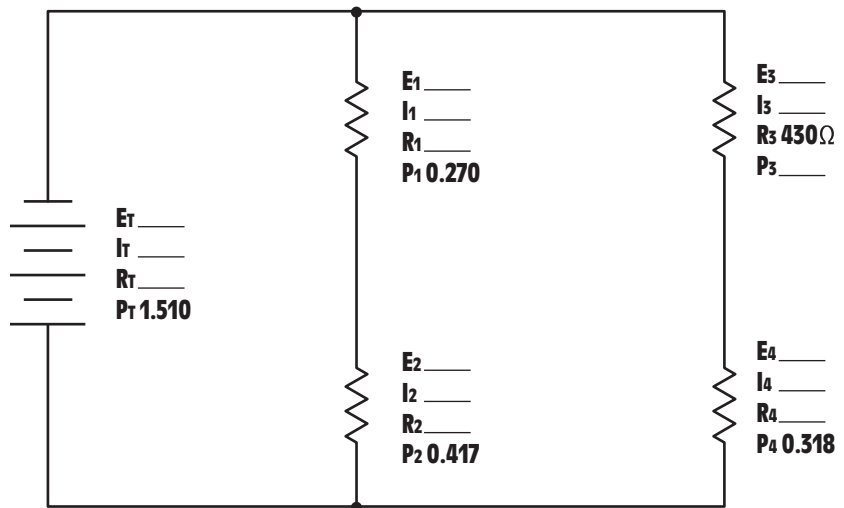

Figure 7-27 Practice Problem 7.
7. Find all the missing values in the circuit shown in *Figure 7-27*.